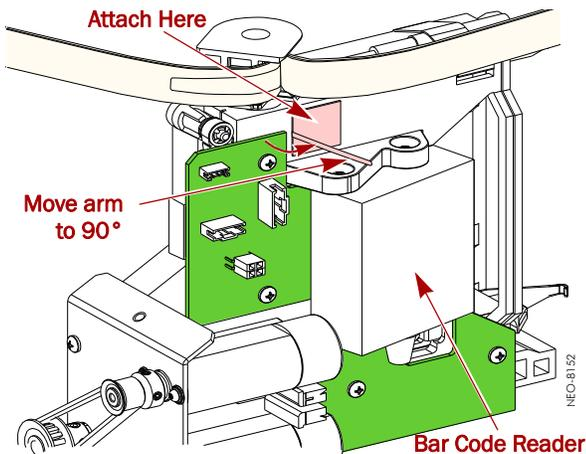

Figure 9. Attach the Clamp
1. With the **plastic-coated clamp** arm pointing out, attach it to the shuttle just above the bar code reader next to the Shuttle PWA (Figure 9).